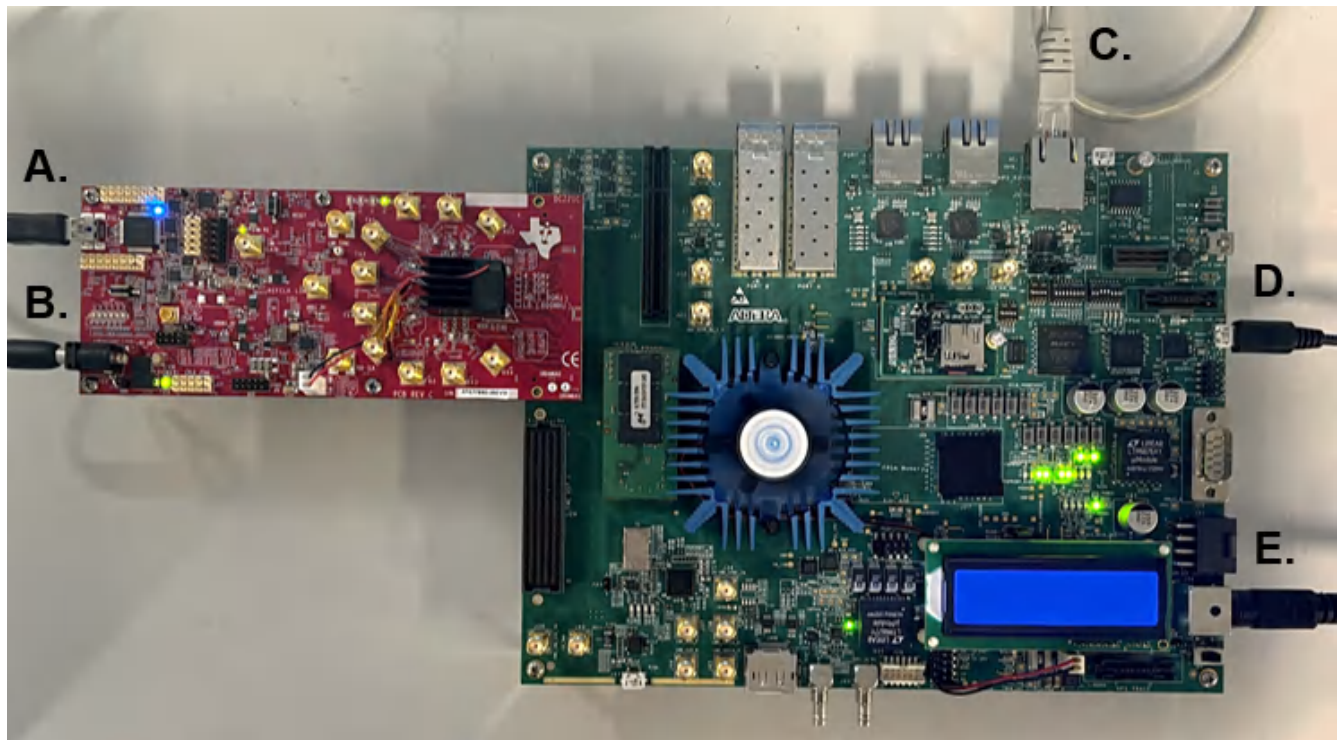

Figure 2-1. AFE7769DEVM and Arria 10 FPGA
1. Mount the FMC+ connector of the AFE7769DEVM to the receiving part on the Arria 10 FPGA (labeled J19), as shown in Figure 2-1.